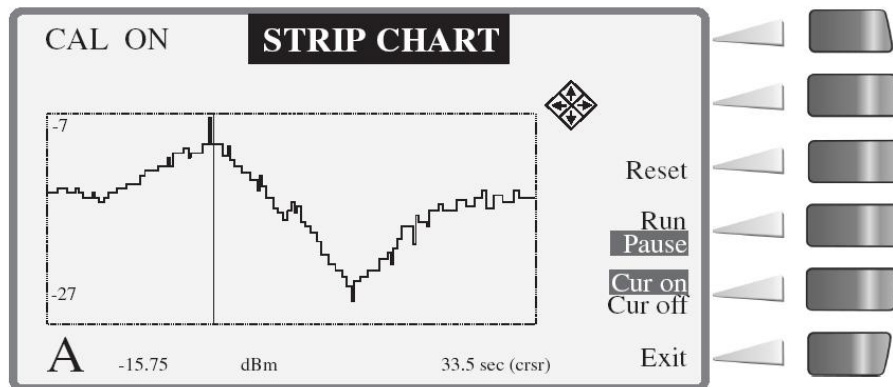

Figure 2-4: Strip Chart Illustration
1. From the Power Meter Configuration menu, move the cursor to the **Strip Chart** option and press **[Config]** (See Figure 2-4).